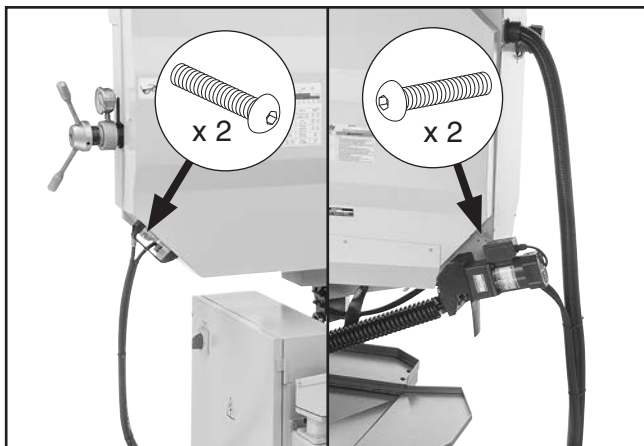

Figure 102. Wheel cover secured.
7. Close wheel cover and secure with (4) button head cap screws removed in **Step 3 of Adjusting Carbide Blade Guards** beginning on **Page 66** (see **Figure 102**).